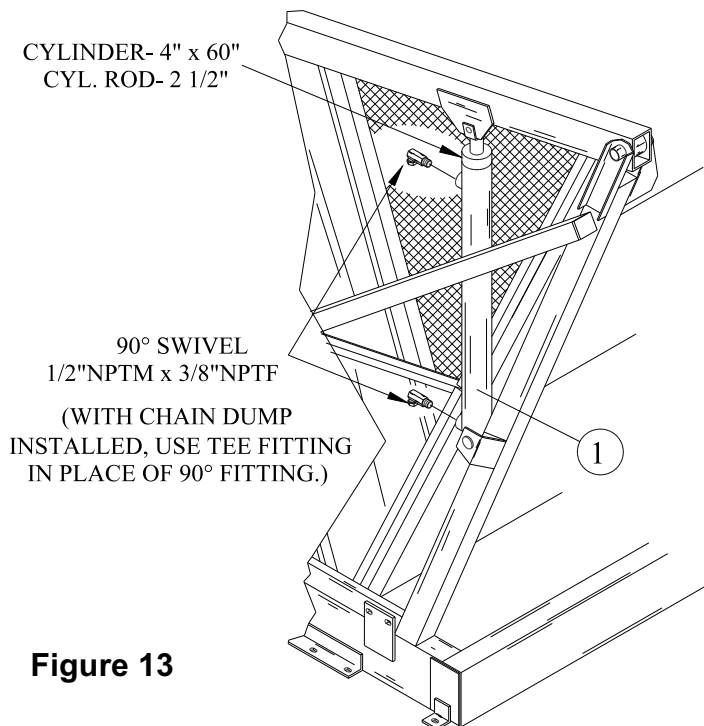

Figure 13
11. **BASKET LIFT CYLINDER** -Refer to Figure 13. Install basket lift cylinder (Item 1), connecting the rod end of cylinder to the basket, and the base of the cylinder to "A" frame.